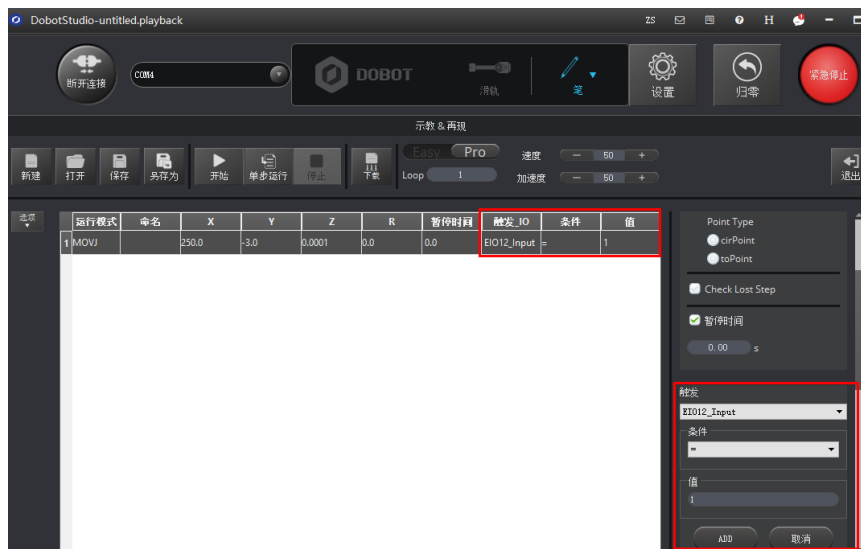

Figure 5.210 Saved point
Step 4 Click **ADD**, as shown in Figure 5.210.